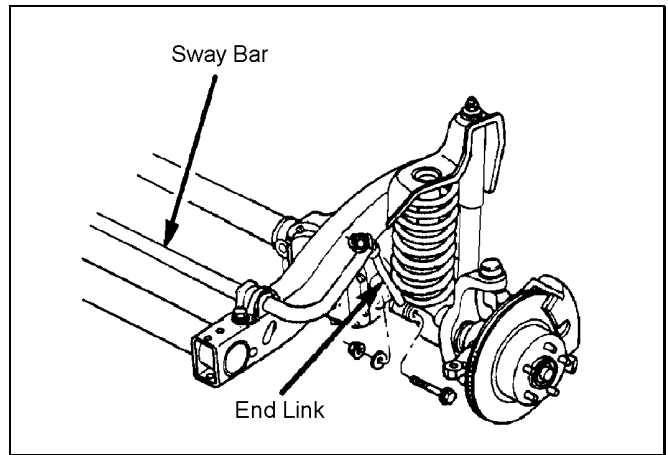

Figure 3
- 7) Position a floor jack under the front axle for support. Remove both front sway bar end links. See Figure 3.